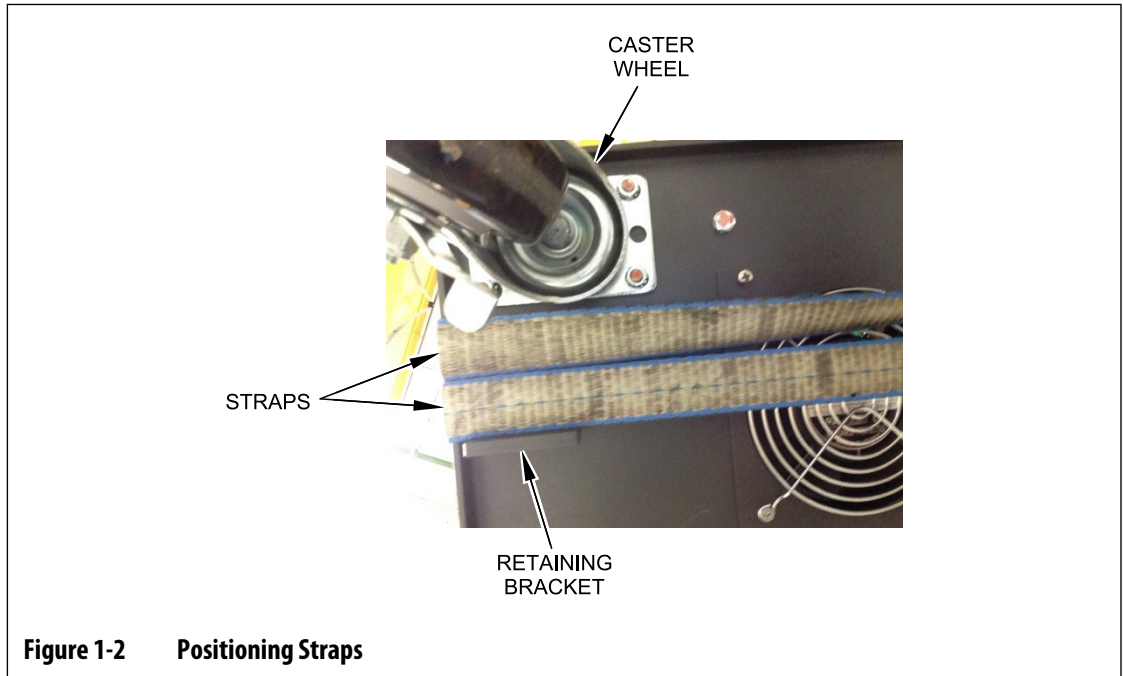

Figure 1-2 **Positioning Straps**
- a. Make sure that the straps are put between the caster wheels and the retaining brackets under the base of the controller. Refer to Figure 1-2.